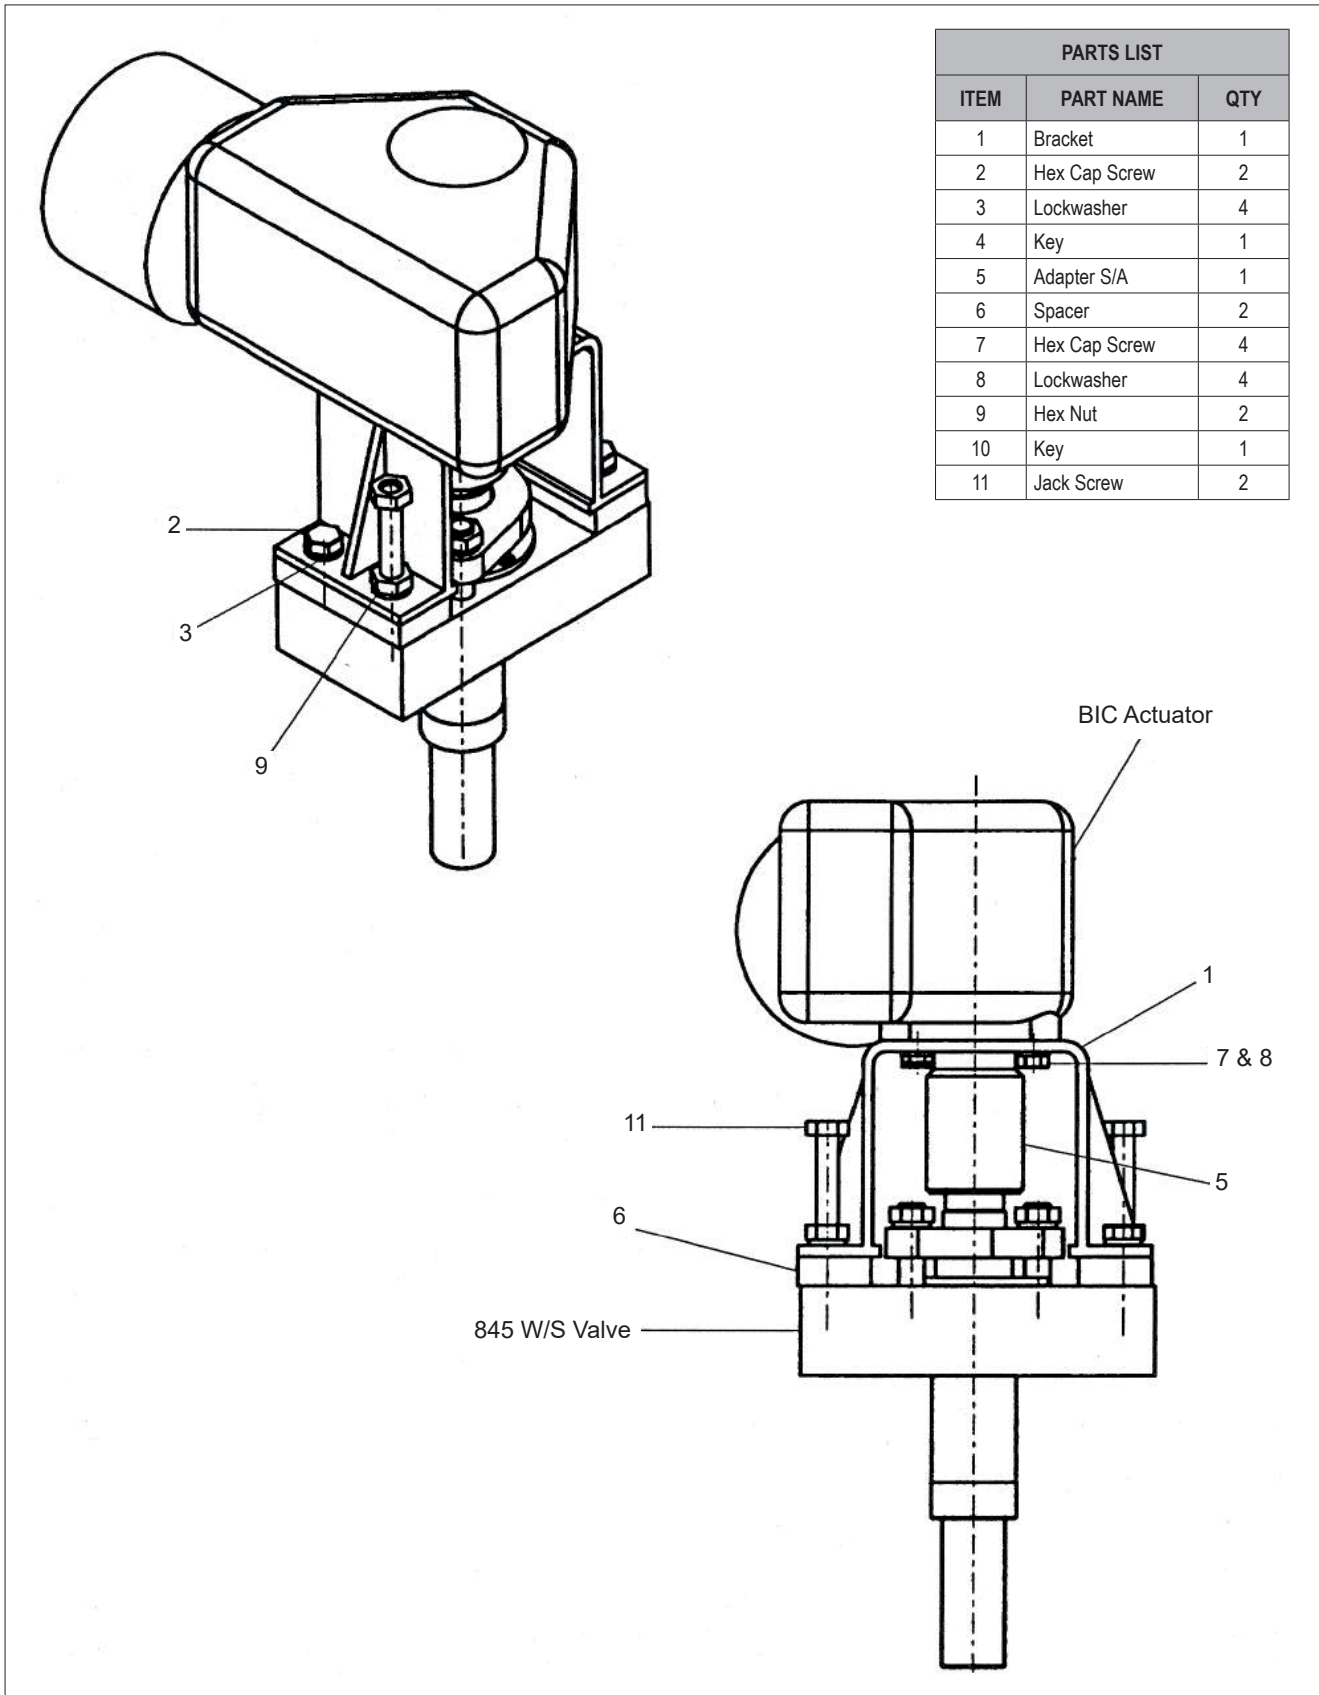

Figure 5.
Numbers in () refer to items shown in **Figure 5**.
4. Normally, the actuator can be pushed directly onto the valve shaft with little effort. If the actuator is sticking to the valve shaft, use the following steps to force the actuator onto the valve shaft. Numbers in () refer to **Figure 5**.
5. Install the two long studs (11), with nuts (9) and lockwashers (3) through the bracket (1) and spacer (6) on opposite corners of the valve bonnet. Bottom the long studs in the threaded holes in the valve body.
6. Use a wrench on the top of the long studs (11) to prevent rotation, and alternately turn the nuts (9) in 1/2-turn increments of rotation to force the actuator onto the valve stem.